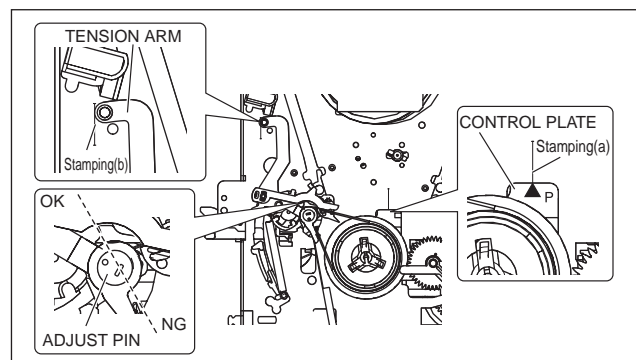

Fig. 3-2-1a
- (1) Play back the back tension cassette gauge (A).
- (2) Check that the indicated value on the left side gauge is within the specified value (G).
- (3) If the indicated value is not within the specified value (G), perform the adjustment in a following procedure.(See Fig.3-2-1a.)